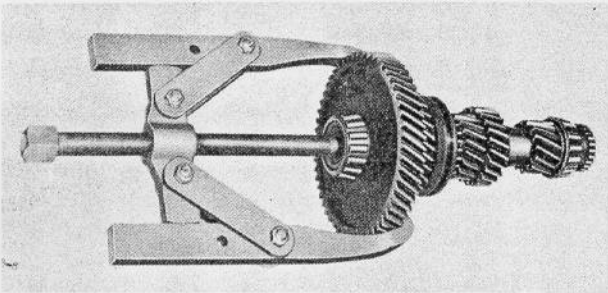

Fig. 11
- c. Remove the front bearing and countershaft gear (55T) (G-Figure 9) as shown in Figure 11.